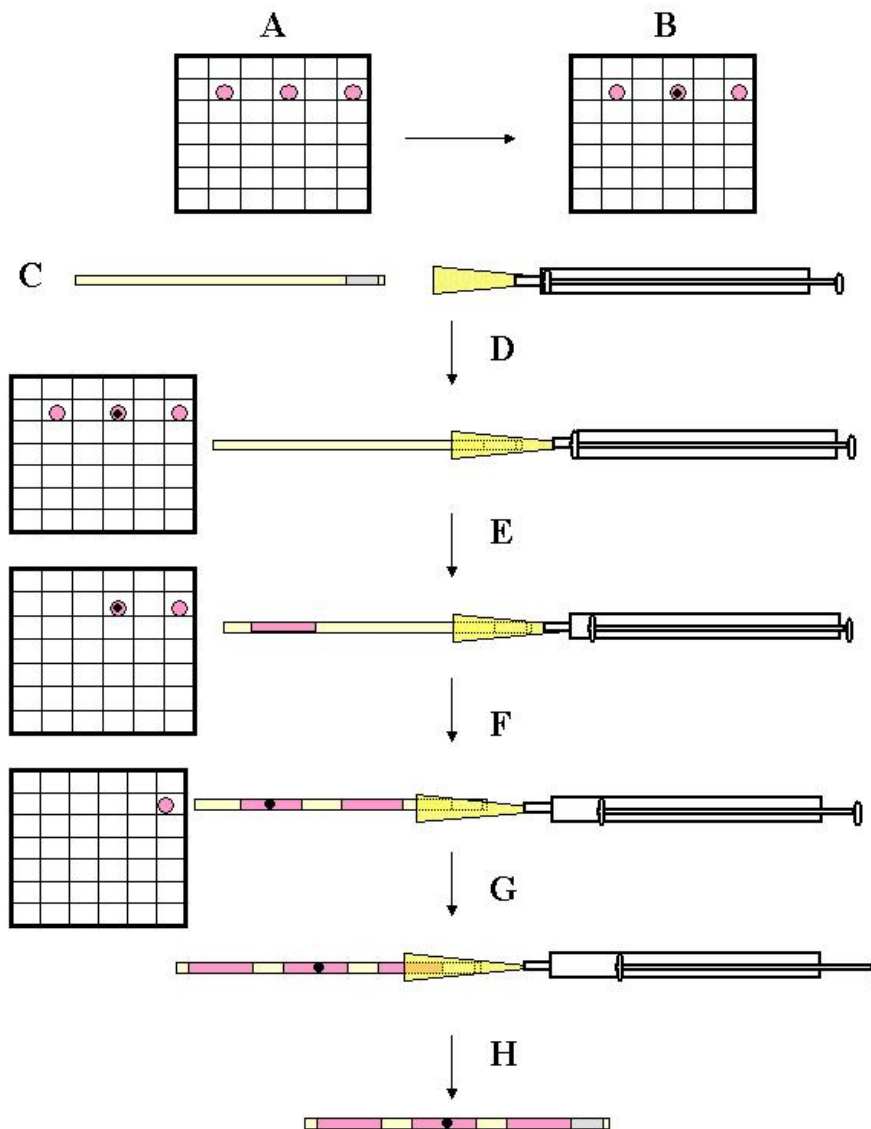

Figure 1. Loading embryos into straws.
Loading Embryos into Straws (see Figure 1)
- b) Insert 200 μ l yellow tip onto the 1 ml syringe as shown (see Figure 1).
- c) On a Petri-dish (i.e. Intergrid plate) place 3 microdrops of 70 μ l holding medium side by side (A).
- d) Place one blastocyst into the middle drop (B).
- f) Aspirate one empty drop (E).
- g) Aspirate air to create a ~0.5 cm column (E)
- i) Aspirate air to create a ~0.5 cm column (F)
- j) Aspirate the remaining empty drop until the cotton plug is wet (G).
- k) Remove transfer straw from syringe and place on slide warmer until use (H).